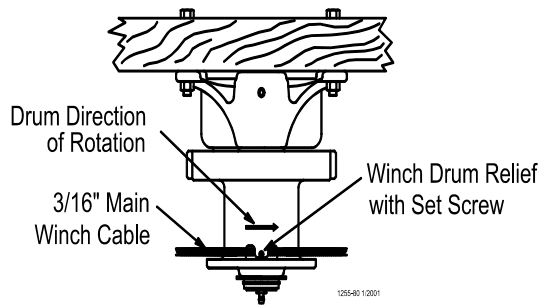

Figure 10. Attaching the Cable to the Power Winch
- Route the cable through the Winch Drum Relief located near the bottom of the drum. Tighten the set screw to anchor the cable to the drum. See Figure 10.